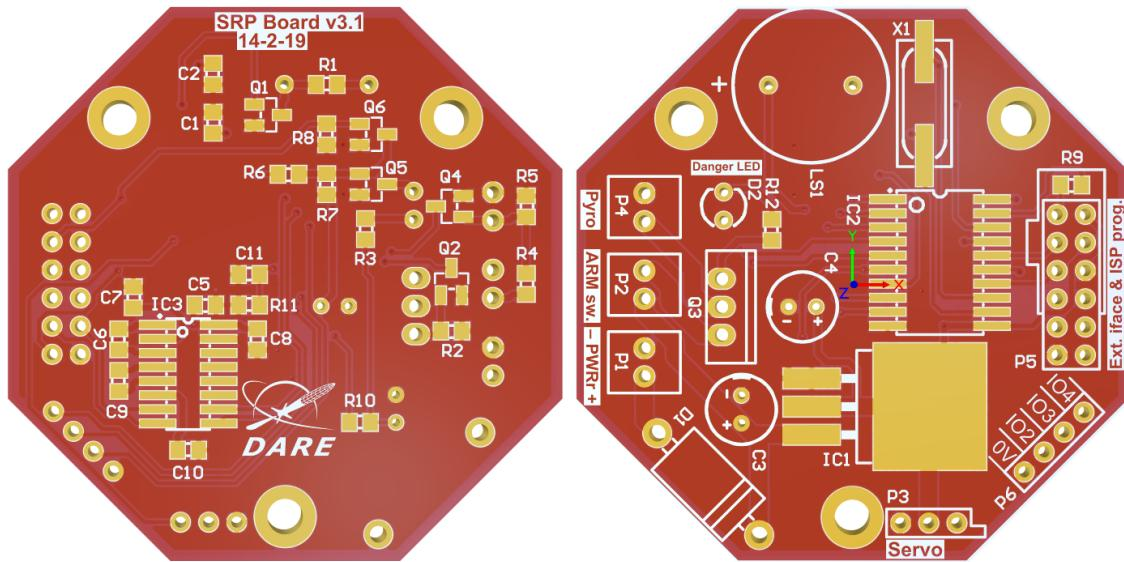

Figure 6: Bottom and top side of a bare SRP PCB. The date will vary, but the DARE logo is on the latest version only.
N.B.: multiple versions of the SRP boards exist. Only use the latest board that works with servos, wire burning and pyros as Fig. 6 shows. These are labeled accordingly.